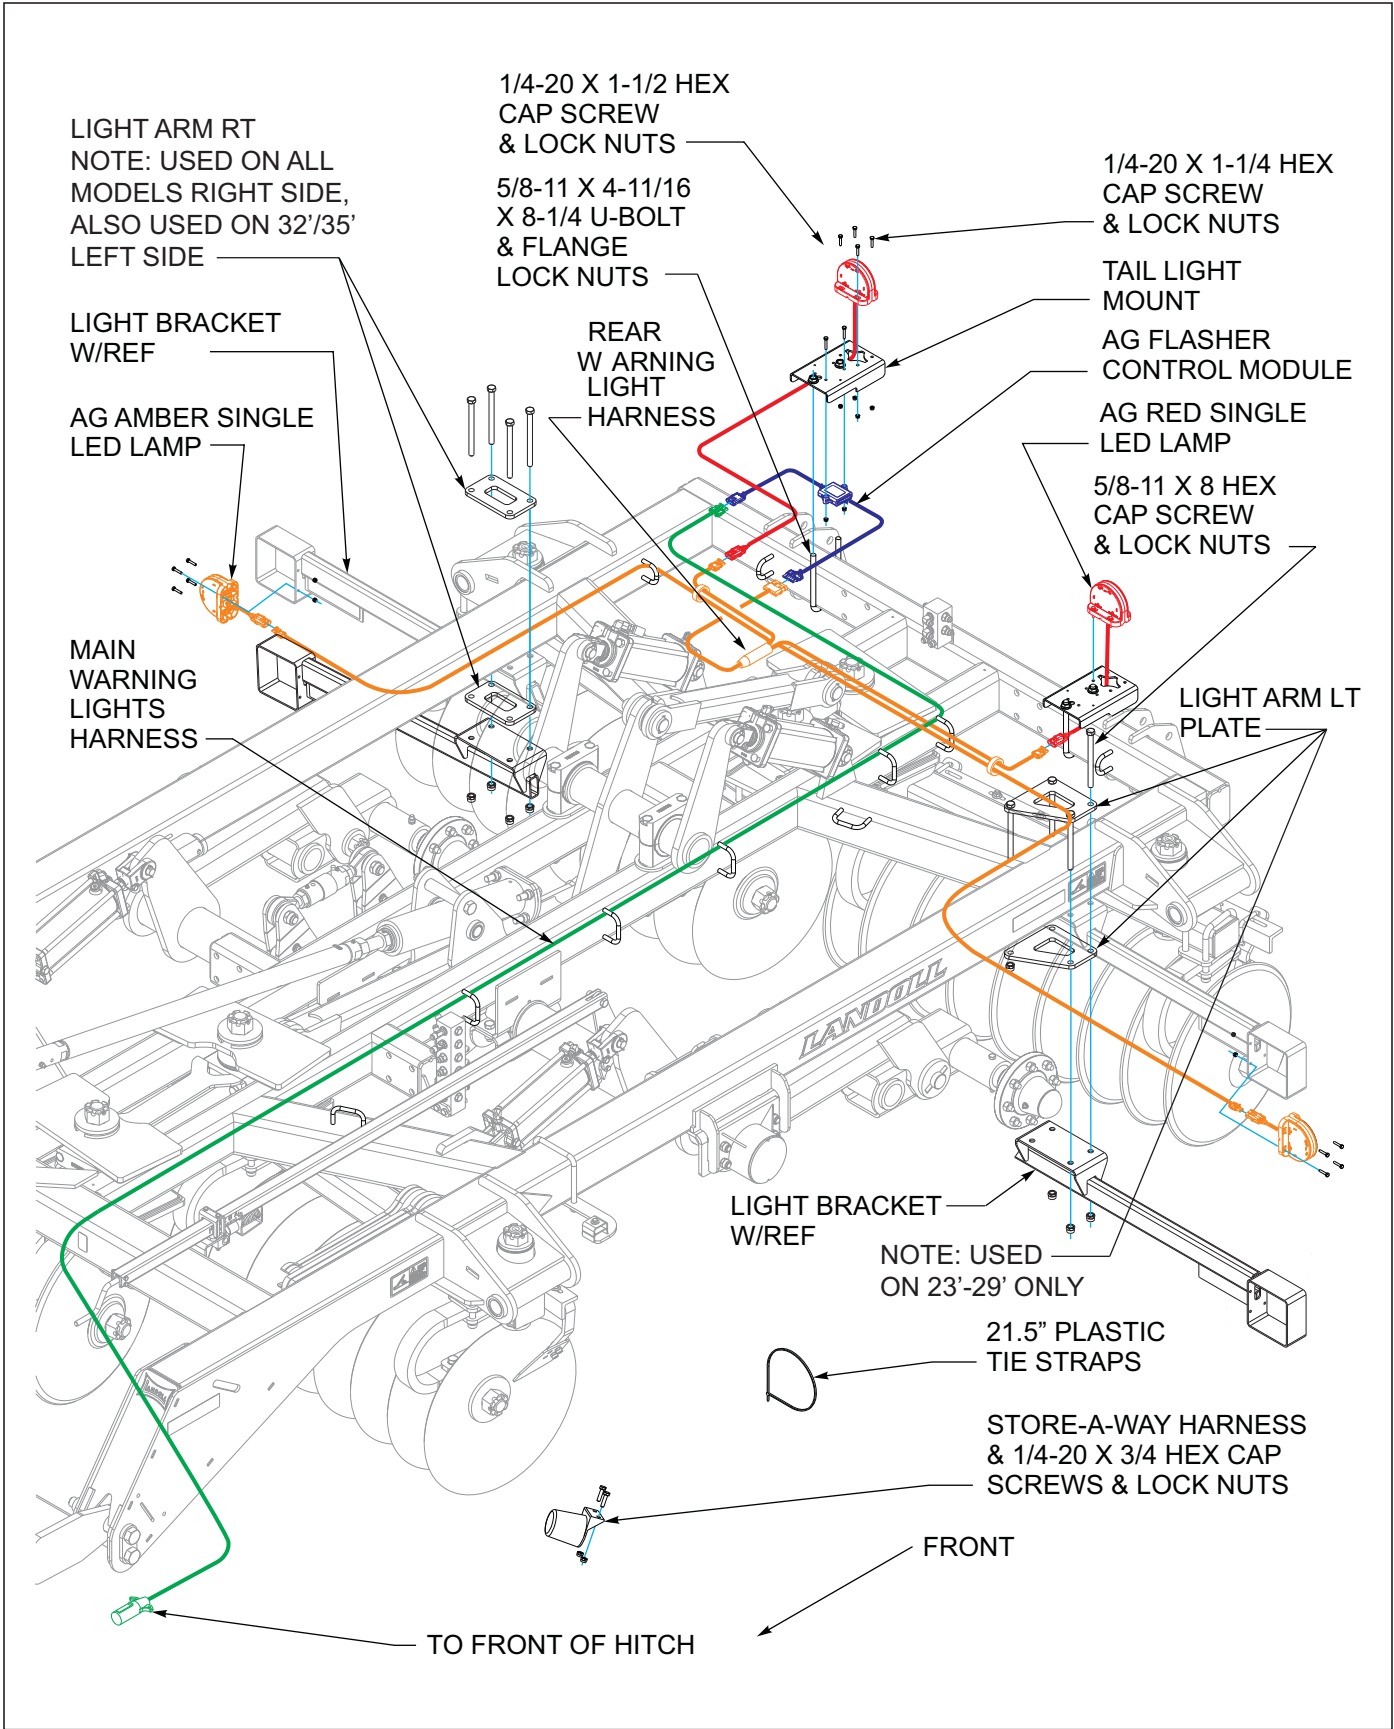

Figure 3-40: LED Light Installation
Refer to (See Figure 3-40.) for light bracket placements.
1. Attach left and right light brackets w/ref to center frame using 5/8-11 x 8 hex cap screws, light arm plates rt and lt (Note locations of plates See Figure 3-40.) and lock nuts. The yellow reflectors go to the front side (See Figure 3-40.) and attach left tail light mount to frame assembly using 5/8-11 x 4-11/16 x 8-1/4 u-bolts and 5/8-11 flange lock nuts.